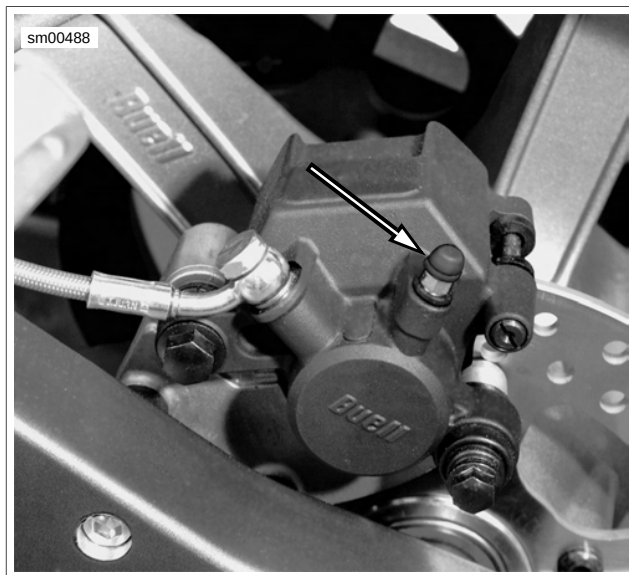

Figure 2-46. Rear Caliper Bleeder Valve
1. See Figure 2-46. Drain brake fluid into a suitable container. Discard used fluid according to local laws.